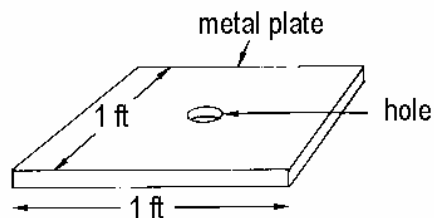

Figure 8 - Grounding plate
2) Grounding plates - Though more difficult to install, plates can achieve very low earth resistance values. The plates must have at least 2 square feet of surface contact with ground (i.e., front and back of a 1 ft x 1 ft plate; see figure 8). Such a plate would have a 50% larger surface area than that of the 8-foot ground rod listed above. Plates should be a minimum of ¼-inch thick if iron or steel, or 1/16-inch thick if nonferrous. Do not use aluminum because it quickly oxidizes and greatly increases resistance to earth.